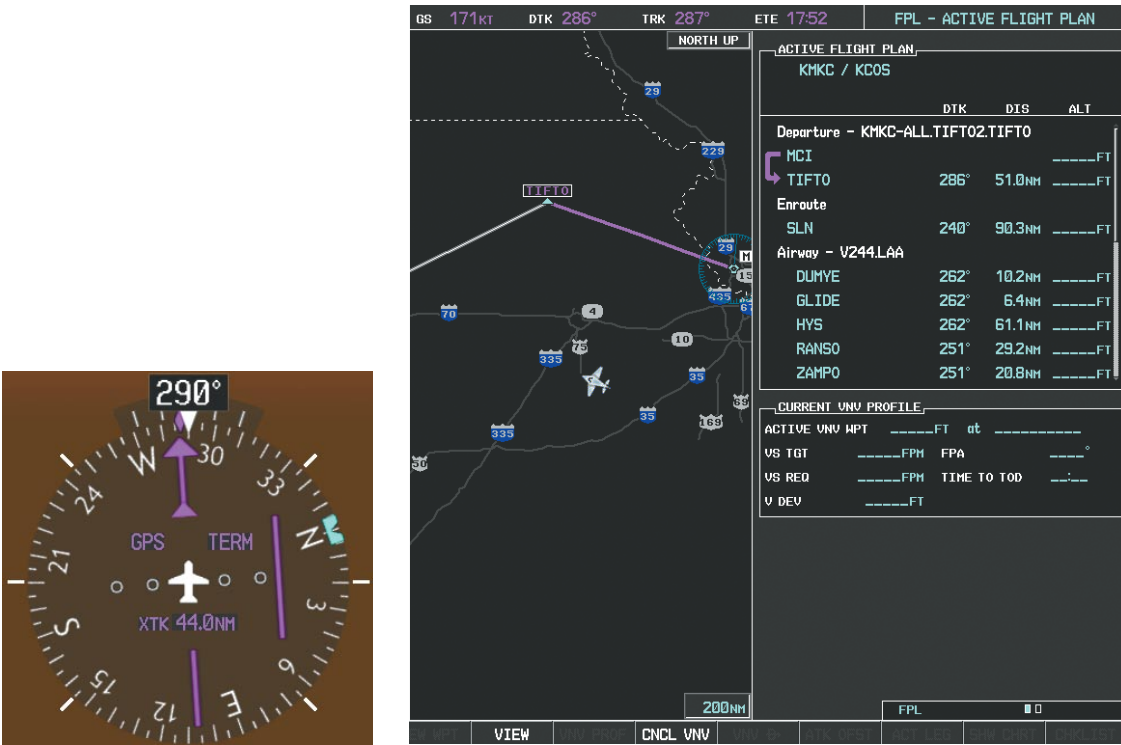

Figure 5-105 Assigned Heading of 290°
- 3) ATC now assigns routing to join V4. A heading of 290° is assigned to intercept V4. The aircraft turns to heading 290° as seen in Figure 5-105.